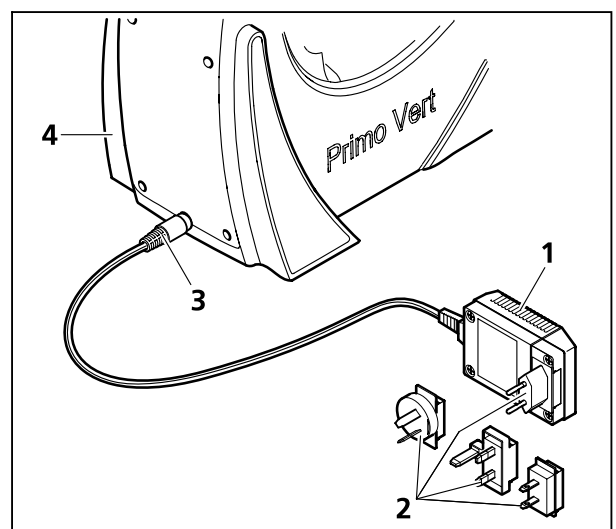

Fig. 9 Connecting the plug-in power unit
- If necessary, replace the power supply adapter attached to the plug-in power unit (Fig. 9/1) by one of the country-specific adapters supplied (Fig. 9/2), pulling off the existing adapter and inserting the desired one.
- Insert the plug (Fig. 9/3) of the plug-in power unit into the connection socket located on the rear of the stand (Fig. 9/4).
- Connect the plug-in power unit (Fig. 9/1) with a power outlet.